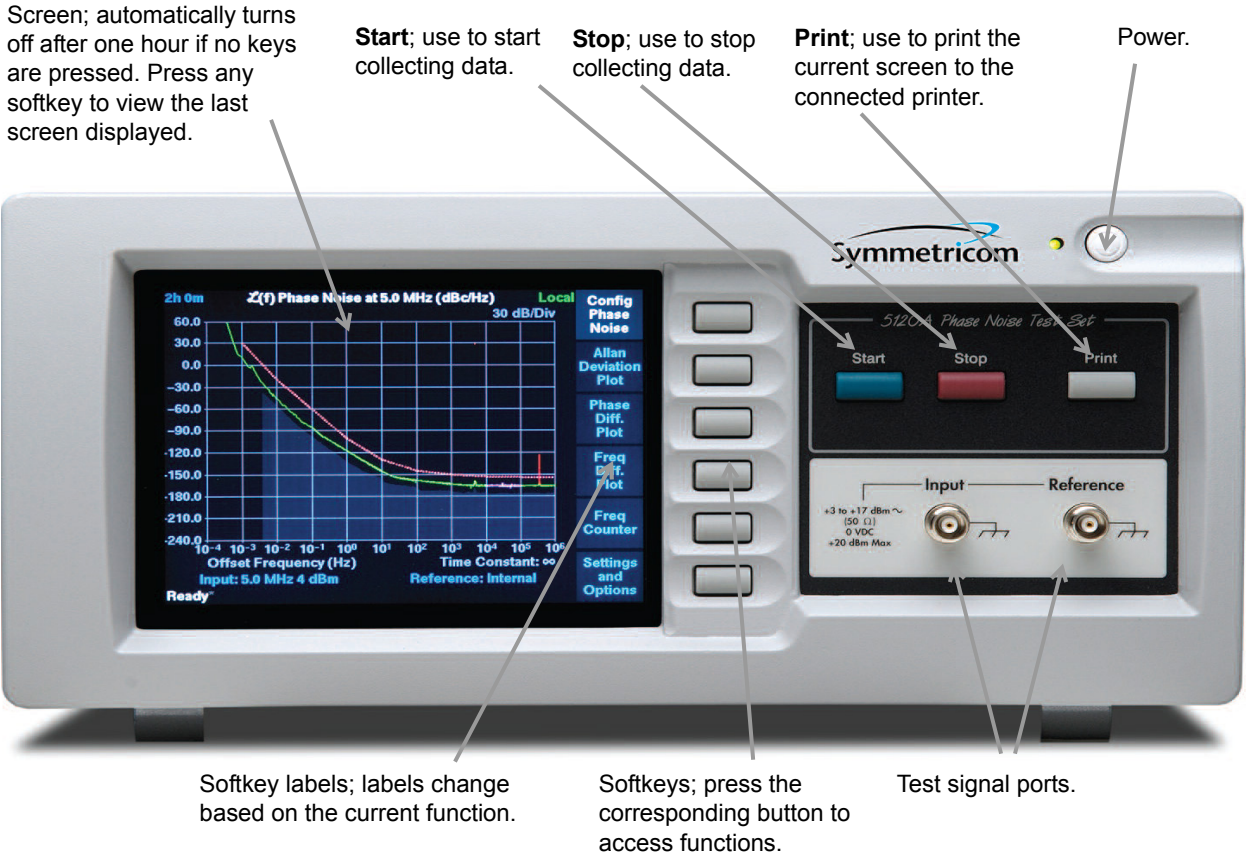
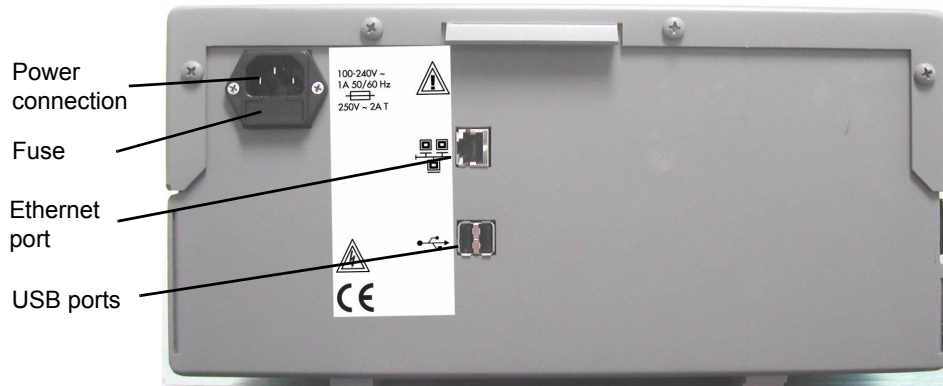
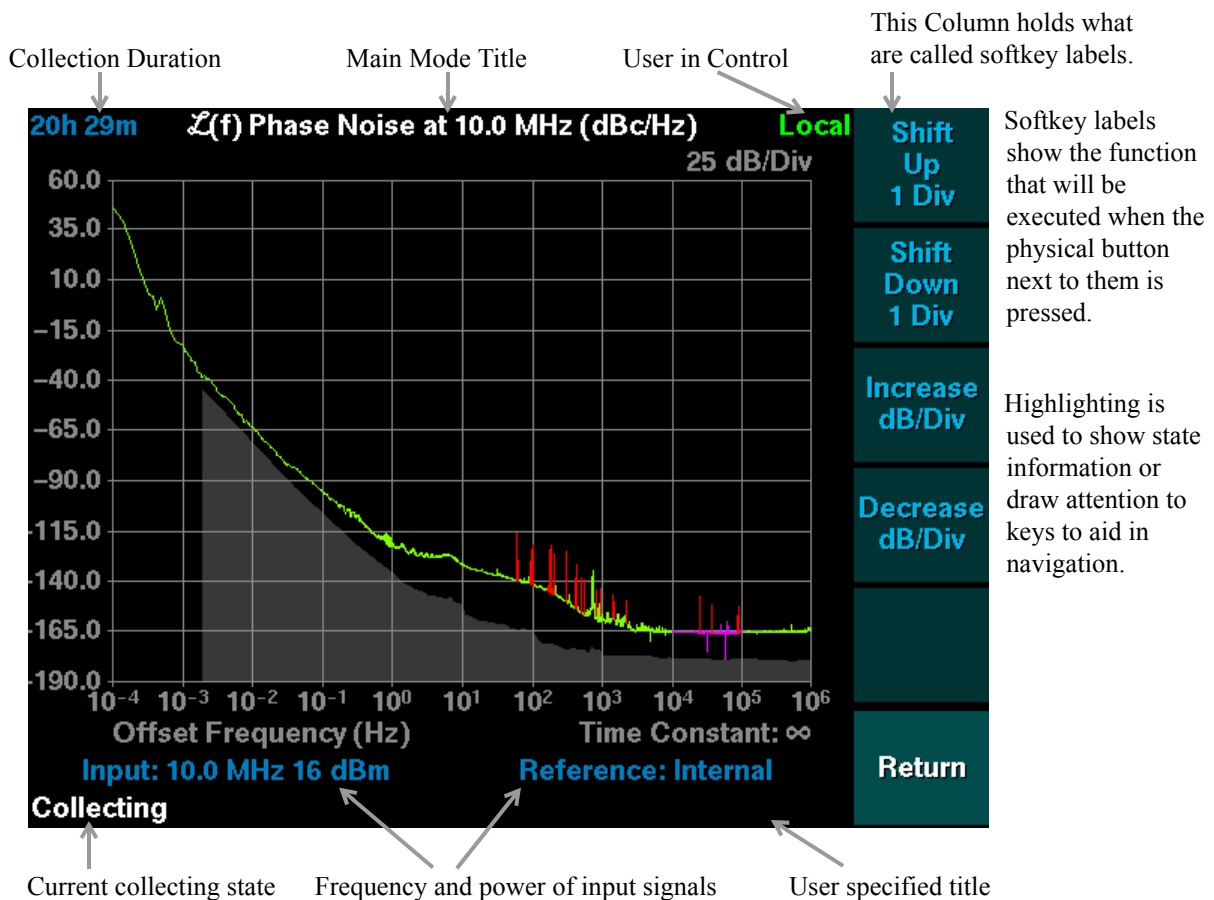
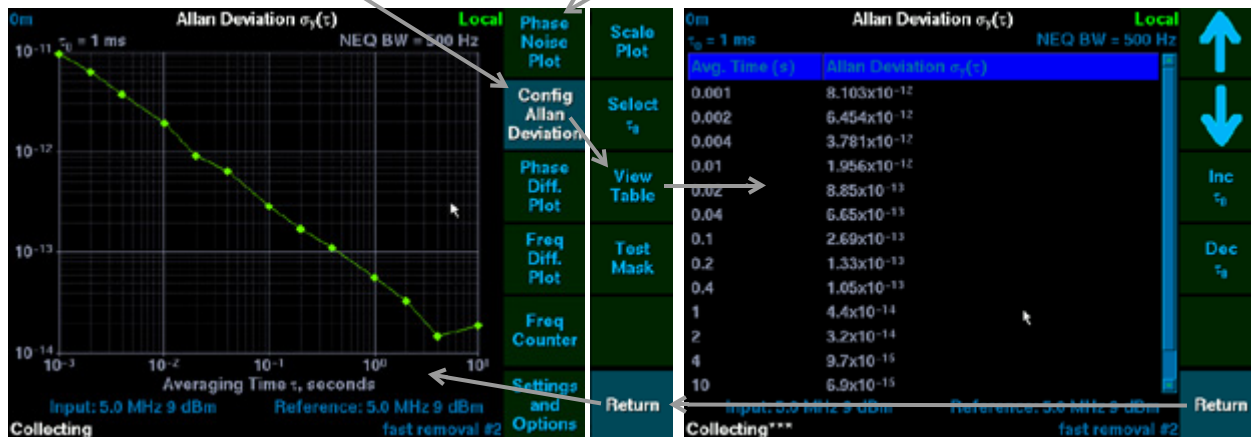

Figure 1: Front Panel
Figure 2: Rear Panel
Figure 3: Default Main Screen
Figure 4: Softkey Navigation
Figure 1 shows the test set’s front panel, and Figure 2 shows the test set’s rear panel.
- When *Ready* displays in the status field (see Figure 3 on page 11 and “3.2.1 Collecting State” on page 13) the instrument is ready for normal operation.
Figure 3 depicts the default screen after the test set has been collecting data for several hours. It names and describes the major components. These are described in section “3.2 Main Screen Components” on page 13.
The column labeled “softkeys” in Figure 3 mirrors the set of buttons on the test set front panel (Figure 1 on page 4 shows them side by side). The labels indicate the effect pressing the corresponding button will have.
Starting with the phase noise plot as shown in Figure 3, pressing the **Allan Deviation Plot** button would:
Figure 4 shows the flow from the Allan deviation plot, to its table format, and back to the plot.
This manual uses the following convention to describe the softkey-based navigation flow shown in Figure 4 on page 12:
This section provides a description of the main screen components shown in Figure 3 on page 11.
- *Collecting* state is entered once initialization is complete and the test set has begun collecting and presenting data. When *Collecting* state is reached the test set starts displaying measurements and tracking how long it has been collecting. See the top left corner of Figure 3 for an example of the collection duration.
To avoid interference between *Local* and *Remote* users, certain operations and configuration settings require that the user wishing to perform them be in control of the test set (or willing to take control). The user who is in control of the test set is identified in the top right corner of Figure 3. The figure shows that the *Local* user has initiated data collection. If a *Remote* user were to issue the stop command, they would receive a warning reminding them that they are not in control of the test set. At this point the remote user can take control from the local user. See “7.2.1 Taking or Yielding Remote Control” on page 58 for details on taking *Remote* control.
A short string shown in the bottom right corner of Figure 3 can be entered using a USB keyboard or set on the network interface. One title may be assigned at a time. The title appears on all printouts and can thus be used to correlate data sets, identify the owner or input signal sources. The title can be up to 34 characters long.
Figure 3 on page 11 and Figure 4 on page 12 are examples of plots. Four of the five main screens are plots. Plots can be configured in various ways described in detail in later chapters dedicated to data set configuration.
There are two types of tables. The first is a read-only table such as the Allan deviation table. The second type is an interactive table. Both types present softkeys which scroll the table up or down as can be seen in the example table on the right side of Figure 4 on page 12. The scroll keys have different effects depending on the type: